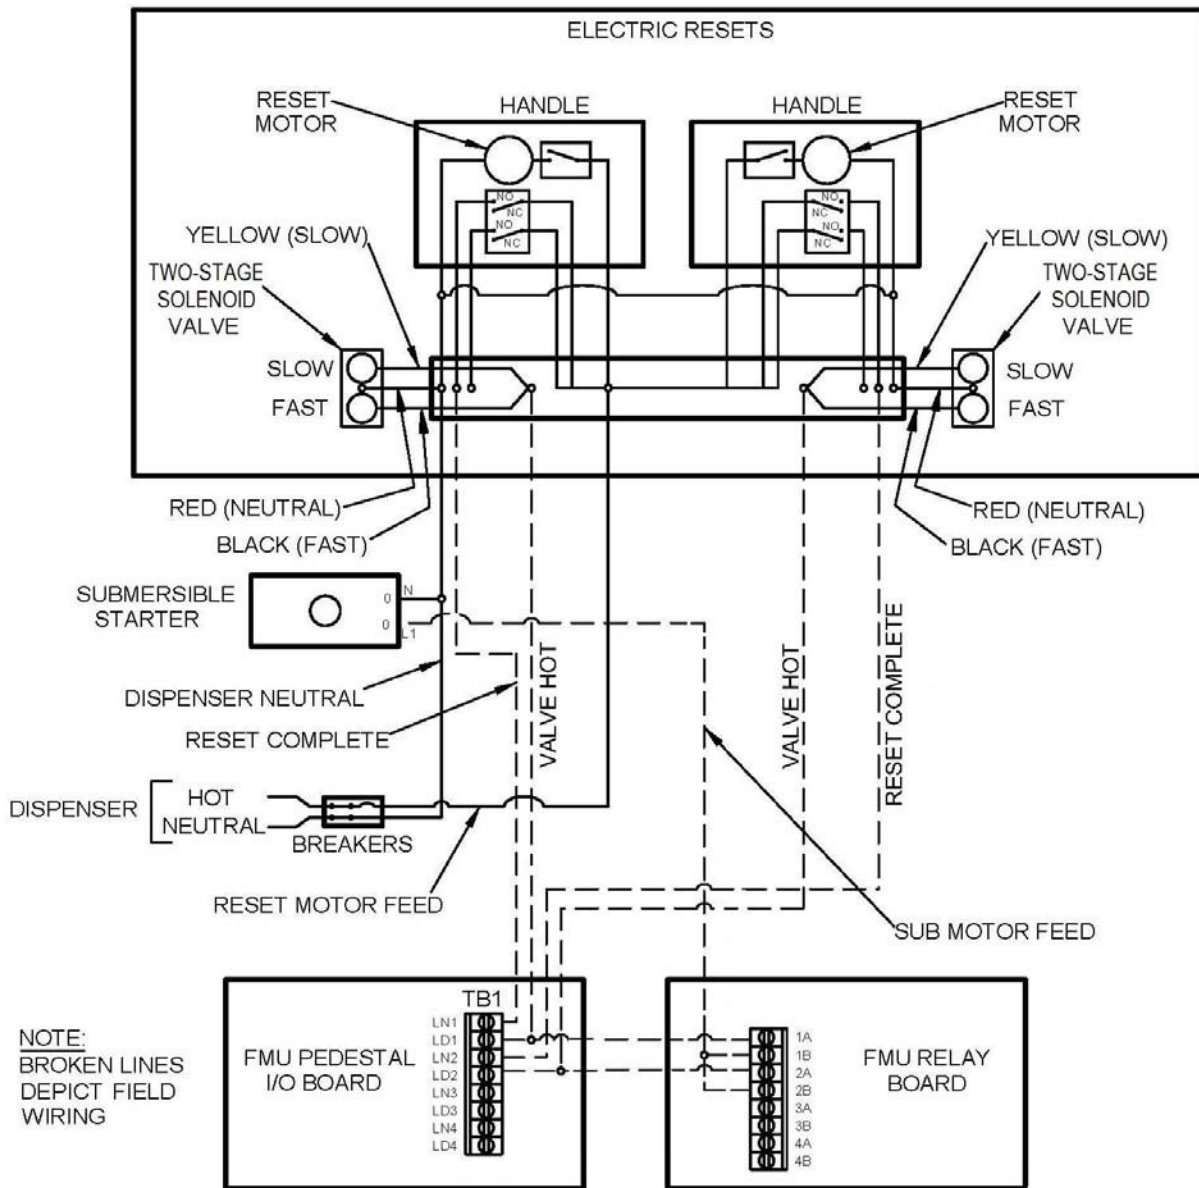

Figure 17 Wiring Diagram - Using Dual Control Relay Assembly (DCRA) to Control Two Devices
Figure 17 illustrates control of a dual hose, single product dispenser having two solenoid valves and one *submersible starter*. If the dispenser had two *submersible starters*, there would be individual wires from the *DCRA* to each starter. A wire would be run from 1B to hose 1 *submersible starter* and another wire from 2B to hose 2 *submersible starter*.
This application may also be used to control a dual hose dispenser with two suction pump motors (no internal solenoid valves) and a solenoid controlled anti-siphon valve which must be activated when either motor is turned on. In Figure 17, this would be illustrated by substituting suction pump motors where the solenoid valves are and a solenoid controlled anti-siphon valve where the *submersible starter* is shown.
10. Repeat steps 1 through 9, as required, for all additional hoses. For the wiring diagram shown in Figure 17, with one starter, run a jumper wire from 1B to 2B. This will provide for an output to the starter when an input is received on 2A.